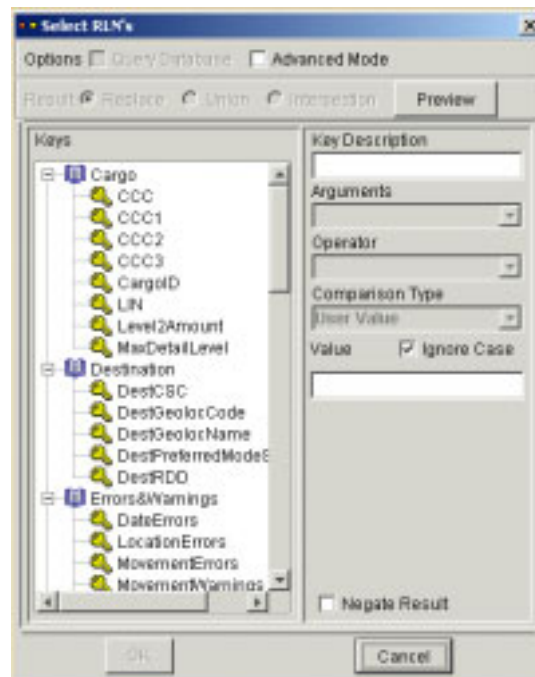

Figure 5.101 Select RLN's Window
- Click the **+** (Add) button. The Select RLN's window opens (Figure 5.101).